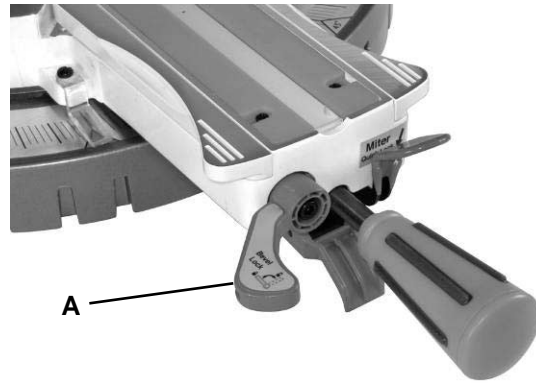
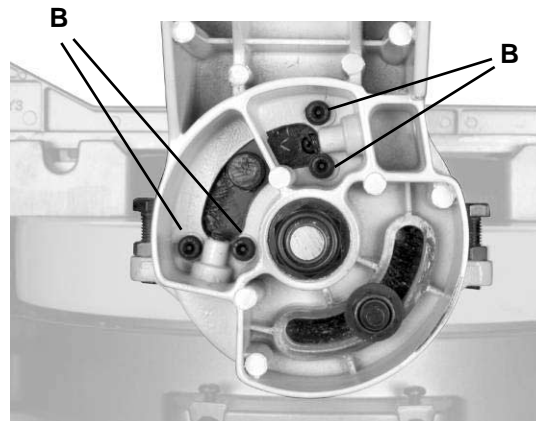
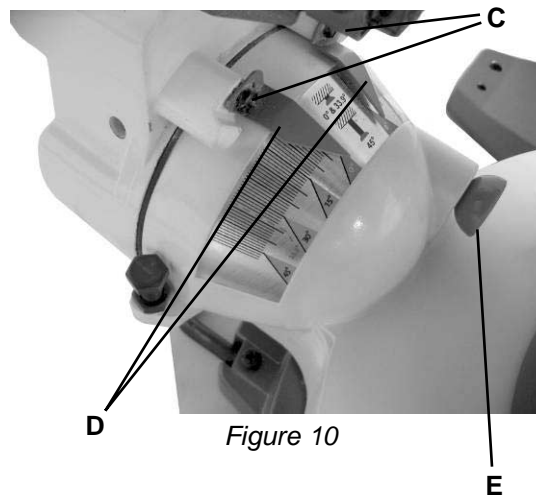
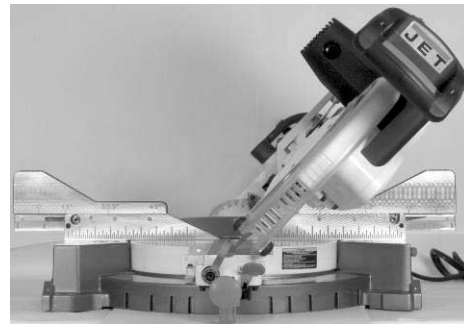

Figure 8
Figure 9
Figure 10
Figure 13
1. Turn the *bevel lock handle* (A, Fig. 8) clockwise to loosen and tilt the cutting arm while pushing the *bevel detent pin* (E, Fig. 10) in against the 0° bevel stop. Turn the *bevel lock handle* (A, Fig. 8) counterclockwise to tighten.
3. Using a 5mm hex wrench, loosen four *adjustment bolts* (B, Fig. 9) at the back of the miter saw. Unlock the *bevel lock handle* (A, Fig. 8) and position the cutting arm to be zero degrees to the table using the combination square as your reference.
4. Tighten the *bevel lock handle* (A, Fig. 8) and the four *adjustment bolts* (B, Fig. 9).
2. With cross-point screwdriver, loosen two *bevel indicator screws* (C, Fig. 9).
3. Adjust *bevel indicators* (D, Fig. 9) to the “0” mark on the bevel scale and retighten the screws (C, Fig. 9).
1. Set the miter angle to zero degrees. Fully extend the sliding fence completely to the left then pull the *bevel detent pin* (E, Fig. 10) out.
2. Loosen the *bevel lock handle* (A, Fig. 8) and tilt the cutting arm completely to the left (Figure 11).
2. Loosen the *bevel lock handle* (A, Fig. 8) and tilt the cutting arm completely to the right (Figure 13).
2. Loosen the *bevel lock handle* (A, Fig. 8).